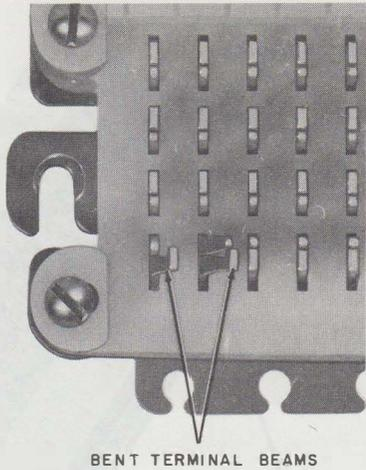
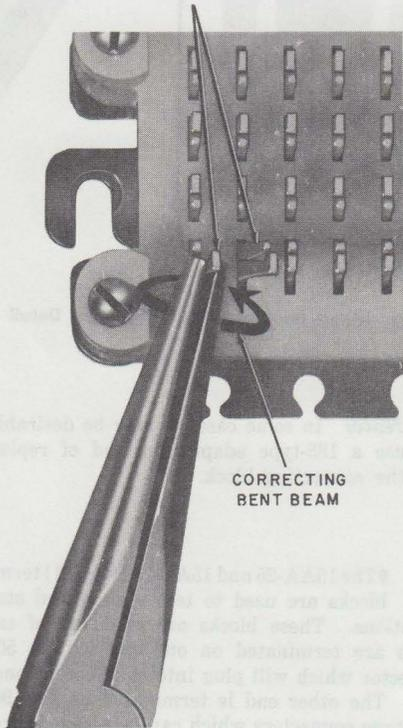

Fig. 18—Misaligned Terminal Beams
Fig. 19—Straightening Terminal Beam
**6.02** Terminals which have been bent or misaligned, as shown in Fig. 18, may be corrected by using long-nose pliers (Fig. 19). The bent beam should be moved until it is aligned with its mate or with other terminals of the same row. Care should be taken not to move beams or terminals in a direction which would spring or open the contact surfaces between the two beams.